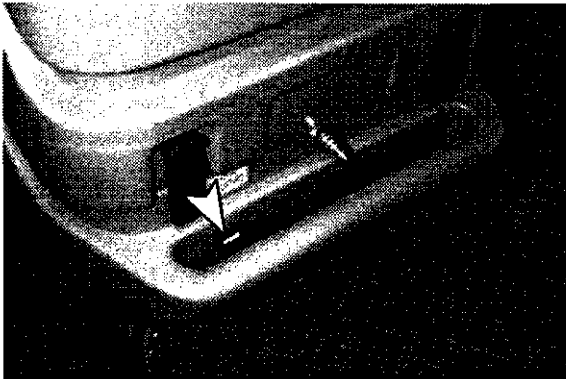

FIG. 4
8. Preheat solution. To maintain or to increase solution temperature before operating extractor, rotate PREHEAT/CLEAN knob to PREHEAT (Figure 4). Activate pump and heater switches. Solution temperature will rise approximately 0.55°C (1°F) per minute with a full solution tank. Maximum achievable solution temperature is approximately 66°C (150°F).